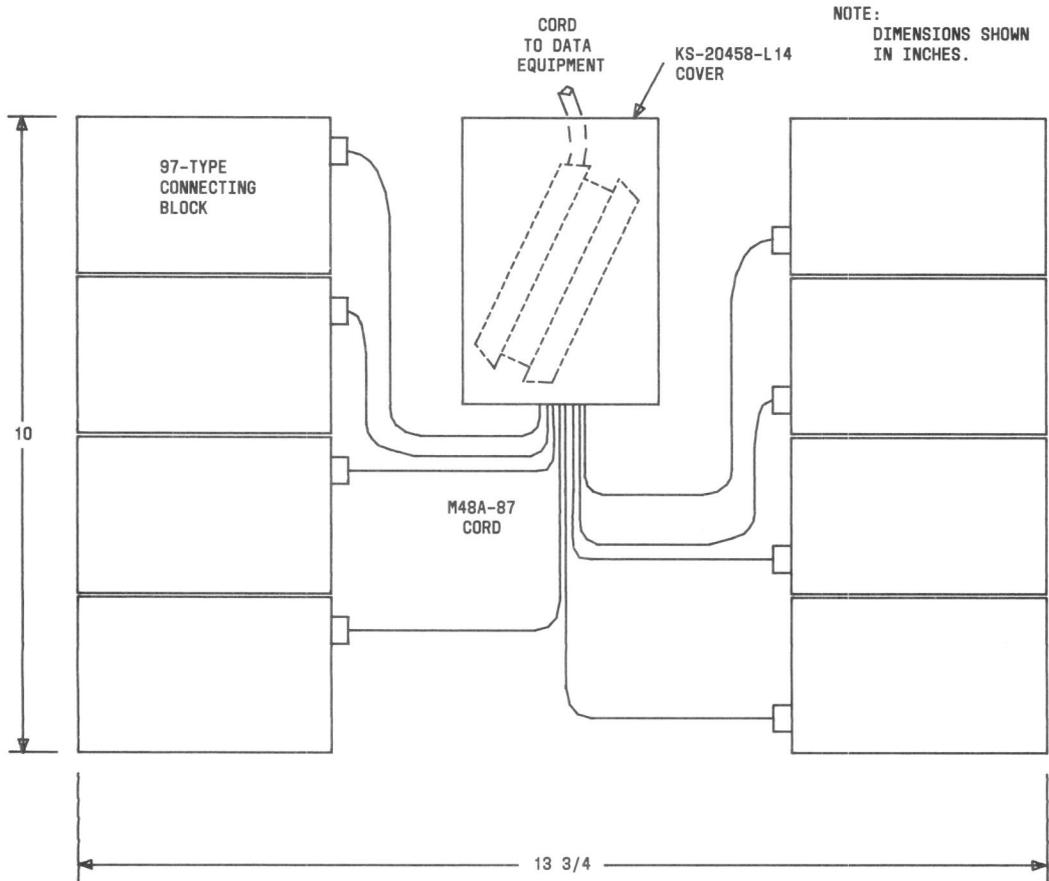

Fig. 16—Wall-Mounted Data Jacks and Adapter Cord
3.11 A wall-mounted arrangement similar to that described in paragraph 3.10 but using an M48A-87 cord and a KS-20458 cover to provide a 50-position interface is shown in Fig. 16.